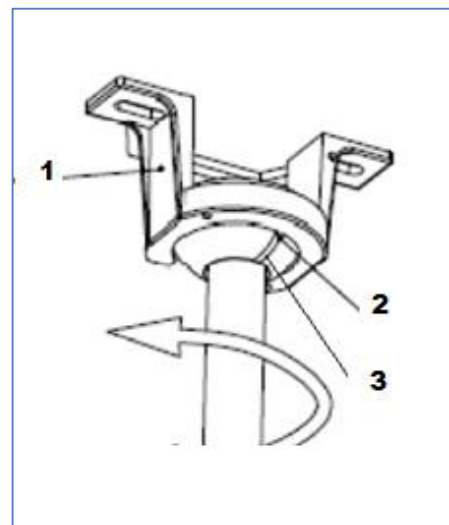

Fig. 5
- 5) Lift the fan assembly onto the mounting bracket (1). Fig. 5
- 6) Make sure the tab (2) on the mounting bracket socket is properly seated in the groove (3) in the ball joint. Fig. 5